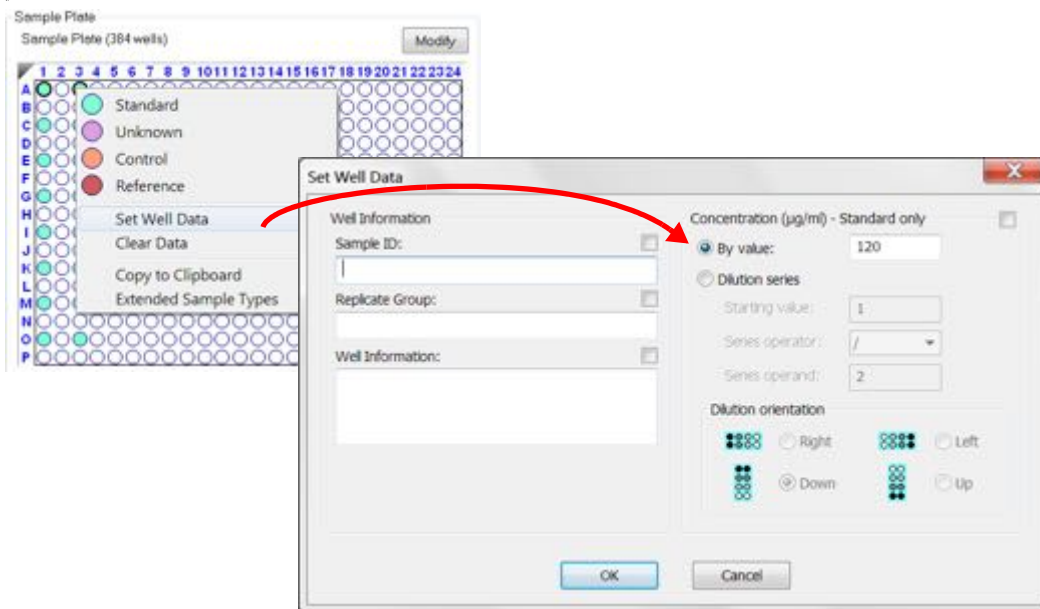

Figure 7-17: Sample Plate Map—Assigning a Standard Concentration
3. Select a series operator, enter an operand, and select the appropriate dilution orientation (see Figure 7-17).
The **Set Well Data** dialog box displays (see Figure 7-17).